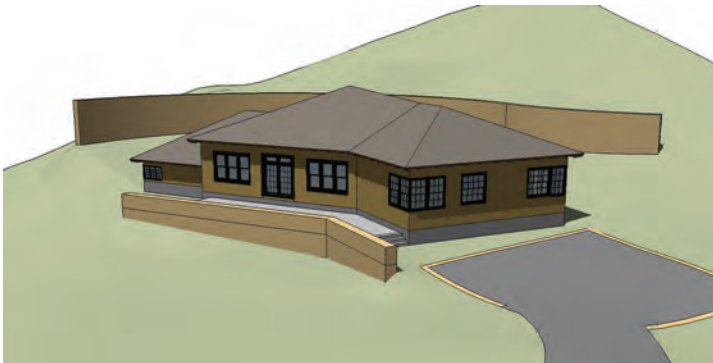

Fig. 15-30: The proposed grades are textured to match.
8. Texture the proposed grades to match (Fig. 15-30).